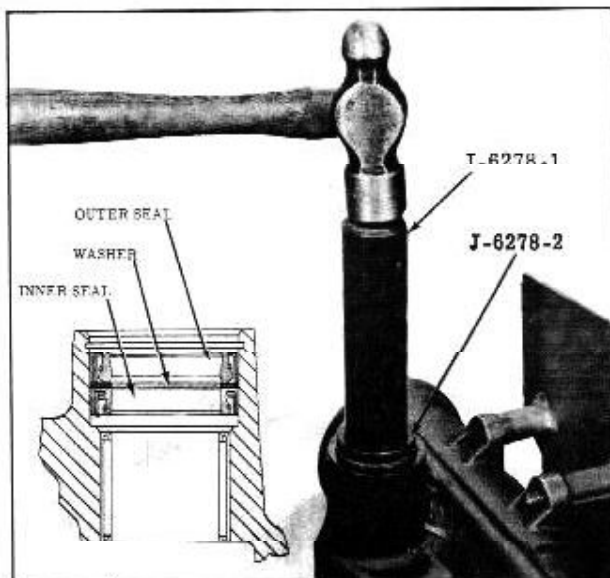

Fig. 4-25 Installing Oil Seals
- b. Drive the seals into the housing until the top of Adaptor J-6278-2 is flush with the housing. (Fig. 4-25)
- d. Reinsert Tool J-6278-1 with Adaptor J-6278-2 and continue driving the seals until the retaining ring seats in its groove (Inset, Fig. 4-25), then remove the tool and adaptor.